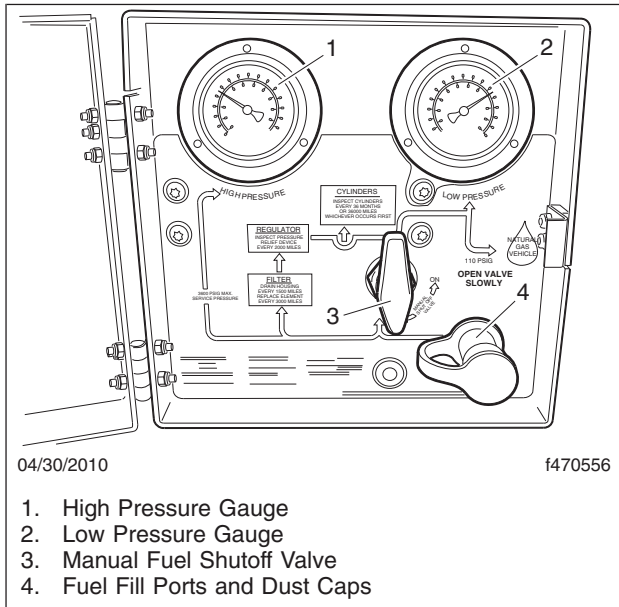
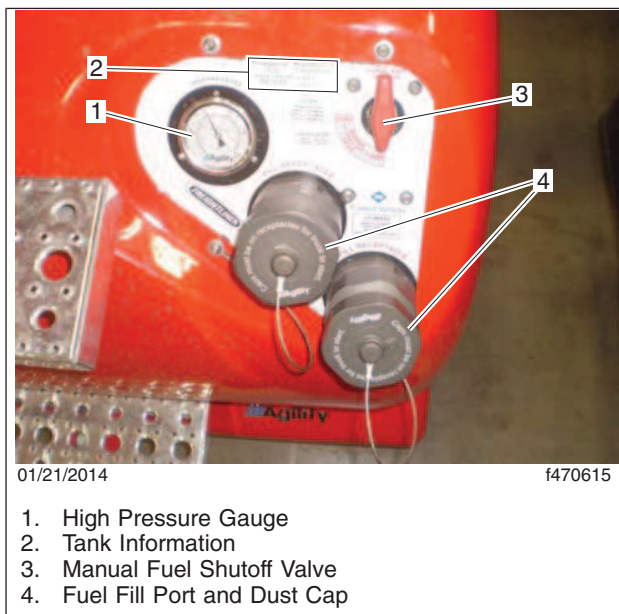

Fig. 9, CNG Fuel Panel (back-of-cab box only)
Fig. 10, CNG Fuel Panel (frame-rail mounted tank)
2. Inspect the fuel fill port for signs of damage, oil residue, or leaks. Ensure the port dust cover and the O-ring inside the port are both present and in good condition. See Fig. 9 and Fig. 10.